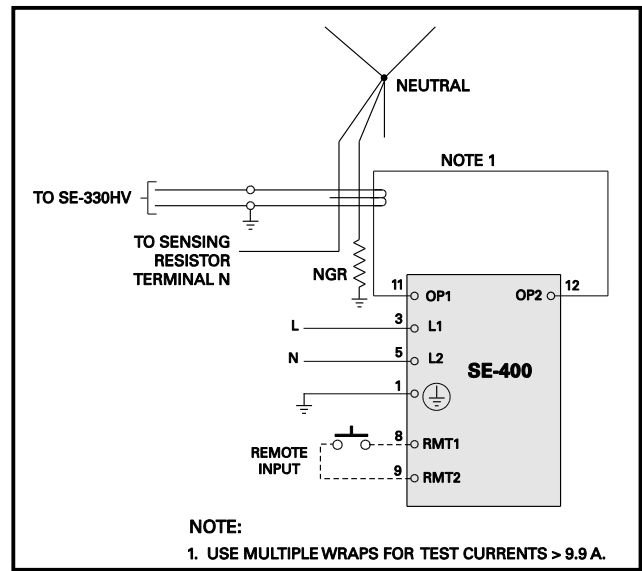

FIGURE 21. Ground-Fault-Test Circuit.
- d) Verify proper reaction of the circuit-interrupting device in response to a simulated or controlled ground-fault current. To simulate ground-fault current, use CT-primary current injection (does not apply for bushing-type CT's). Fig. 21 shows a test circuit using an SE-400 Ground-Fault-Relay Test Unit. The SE-400 has a programmable output of 0.5 to 9.9 A for a duration of 0.1 to 9.9 seconds. Set the test current to 120% of GF TRIP LEVEL. Inject the test current through the current-sensor window for at least 2.5 seconds. Verify that the circuit under test has reacted properly. Correct any problems and re-test until the proper reaction is verified.